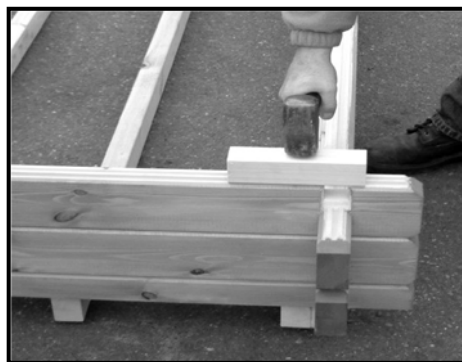

**FIG 3**
5. Also measure length at the centre of the building from wall to wall (A1 to A1) to ensure correct length before fixing to joists (fig3) with 80mm screws.